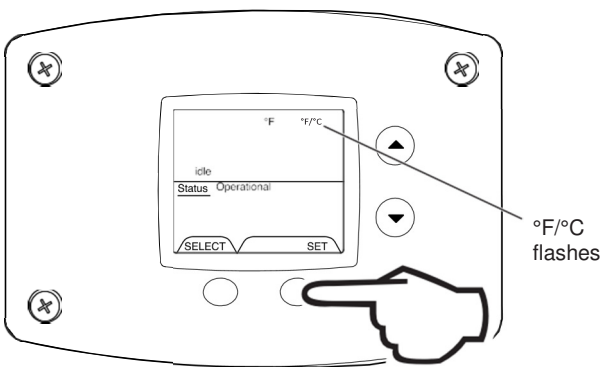

Fig. 23
2. Press 'SET' button to change temperature format. Symbol °F/°C will flash (Fig. 23).